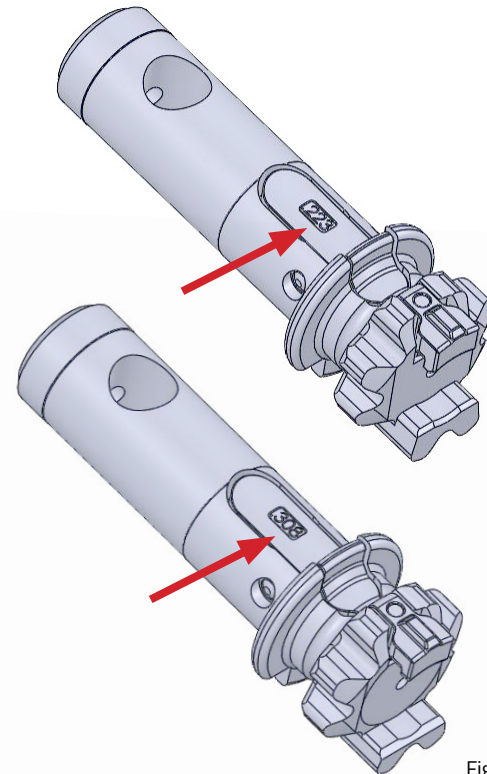

Fig. c-1
1. When swapping the bolt head during a caliber conversion, ensure the bolt head caliber label on the extractor matches the chambering of the conversion kit being installed. (Fig. c-1)